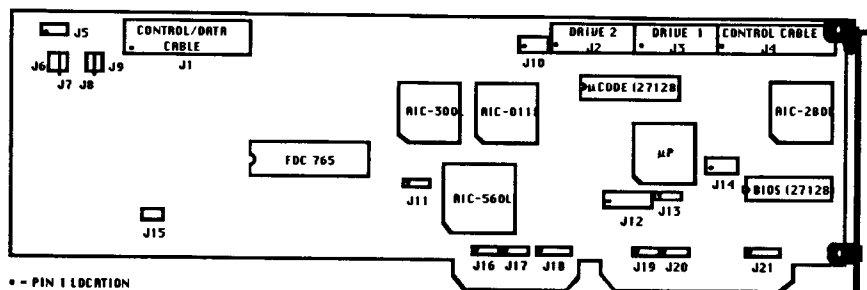

FIGURE 2-1. BOARD LAYOUT
The ACB-2322 is shown in Figure 2-1. This figure shows the location of the controller microcode, ACB-BIOS, jumpers and connectors. Note that Pin 1 of the connectors is identified by a square solder pad on the solder side of the board. The dimensions of the board are:
*Note: Jumper positions and pin numbers are defined from left to right, or top to bottom, where applicable per Figure 2-1. An asterisk (\*) denotes jumpers that are installed for a standard configuration.*